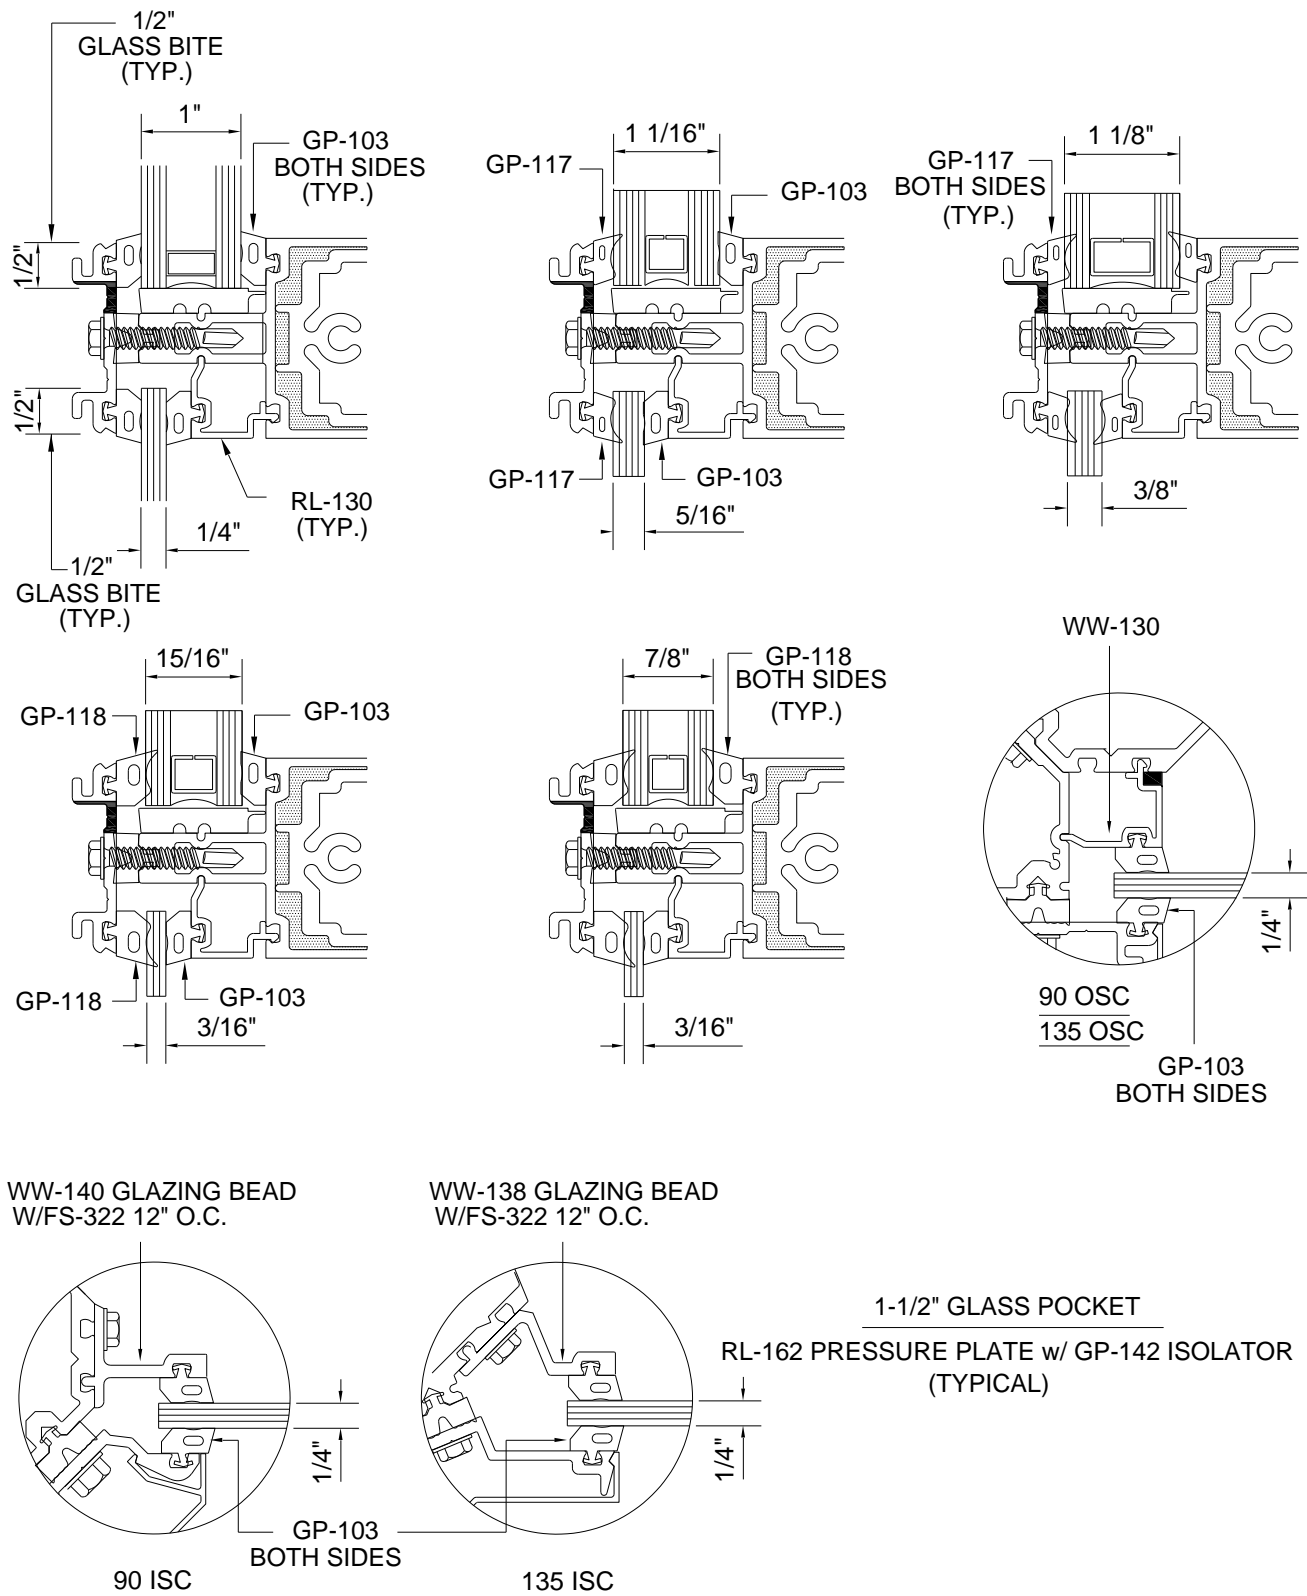

Figure 36: Glazing Options
- 14.1 See *Figure 36* for glazing options.
Note: For horizontal adapters that are adjacent to SSG mullions, a small notch must be made to the tongue engagement hook in order to clear the SSG mullion bridge. See *Figure 36*.